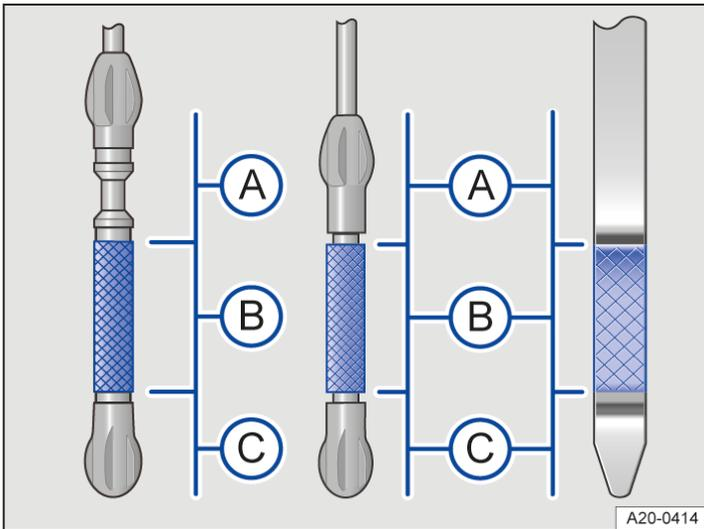
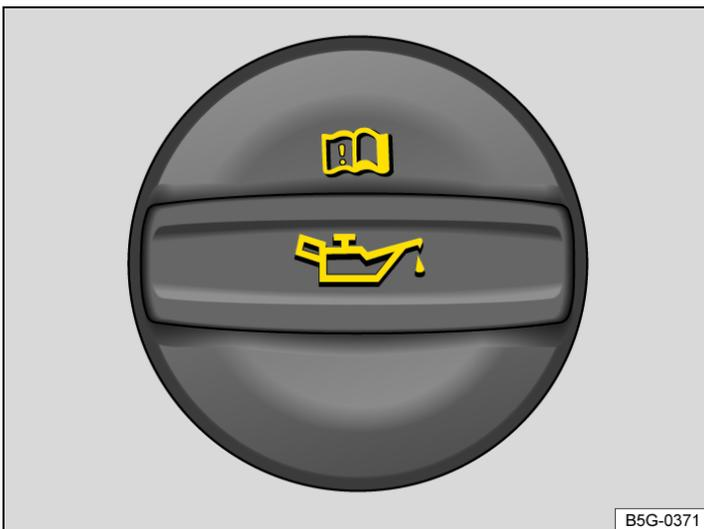

Fig. 1 Engine oil level markings on the oil dipstick (variants).
Fig. 2 In the engine compartment: engine oil filler cap (illustration).
4. Identify the engine oil filler cap and oil dipstick. The engine oil filler opening can be recognised by the symbol  on the cap → Fig. 2, and the oil dipstick has a coloured handle → Fig. 1. If you cannot find the cap and oil dipstick, please contact a qualified workshop.
7. Pull out the oil dipstick again and read the engine oil level on the dipstick as follows → Fig. 1:
- (A) Engine oil level is too high. Follow any messages that are shown on the instrument cluster display and go to a qualified workshop.
- (B) Engine oil level OK. The engine oil can be refilled to the upper limit of this area, e.g. if the engine is operated at high loads. Continue with step 8 or 16 → , → .
- (C) Engine oil level too low. It is essential to fill engine oil. Continue with step 8 → , → .
9. Unscrew the engine oil filler opening cap → Fig. 2.
13. After filling, the engine oil level should be in the middle of the area → Fig. 1 (B). The engine oil level must not be in area → Fig. 1 (A).